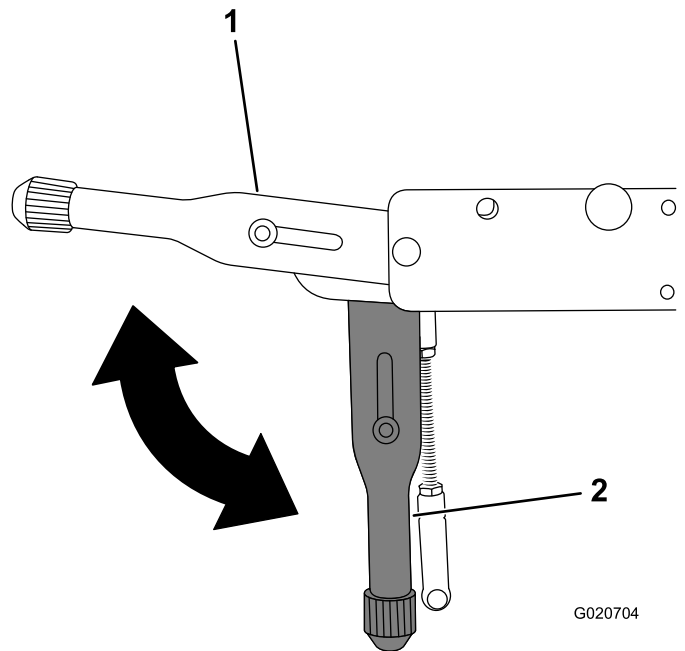

Figure 29
2. Pull the parking brake lever up to engage the brake and start the engine (Figure 29).
5. Push the parking brake lever down to disengage the brake (Figure 29).
2. Engage the parking brake (Figure 29).
6. Release the parking brake (Figure 29).
3. Disengage the parking brake (Figure 29).